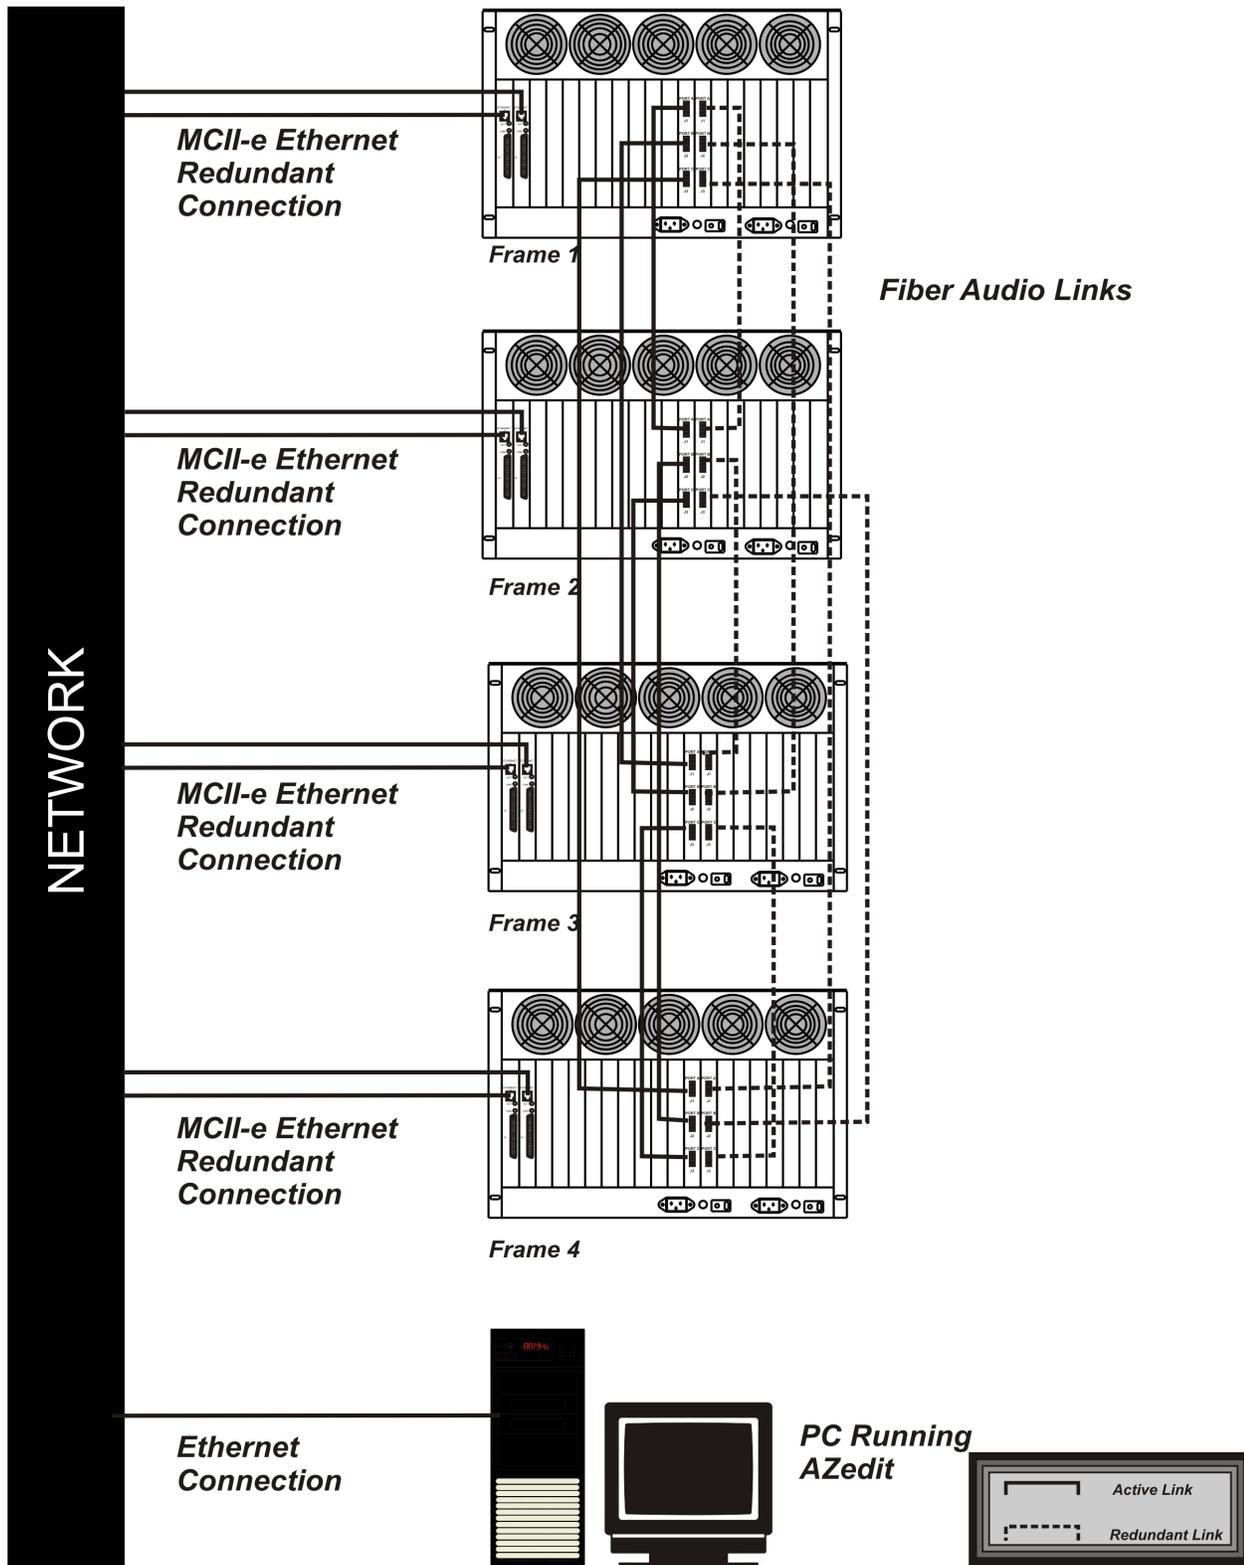
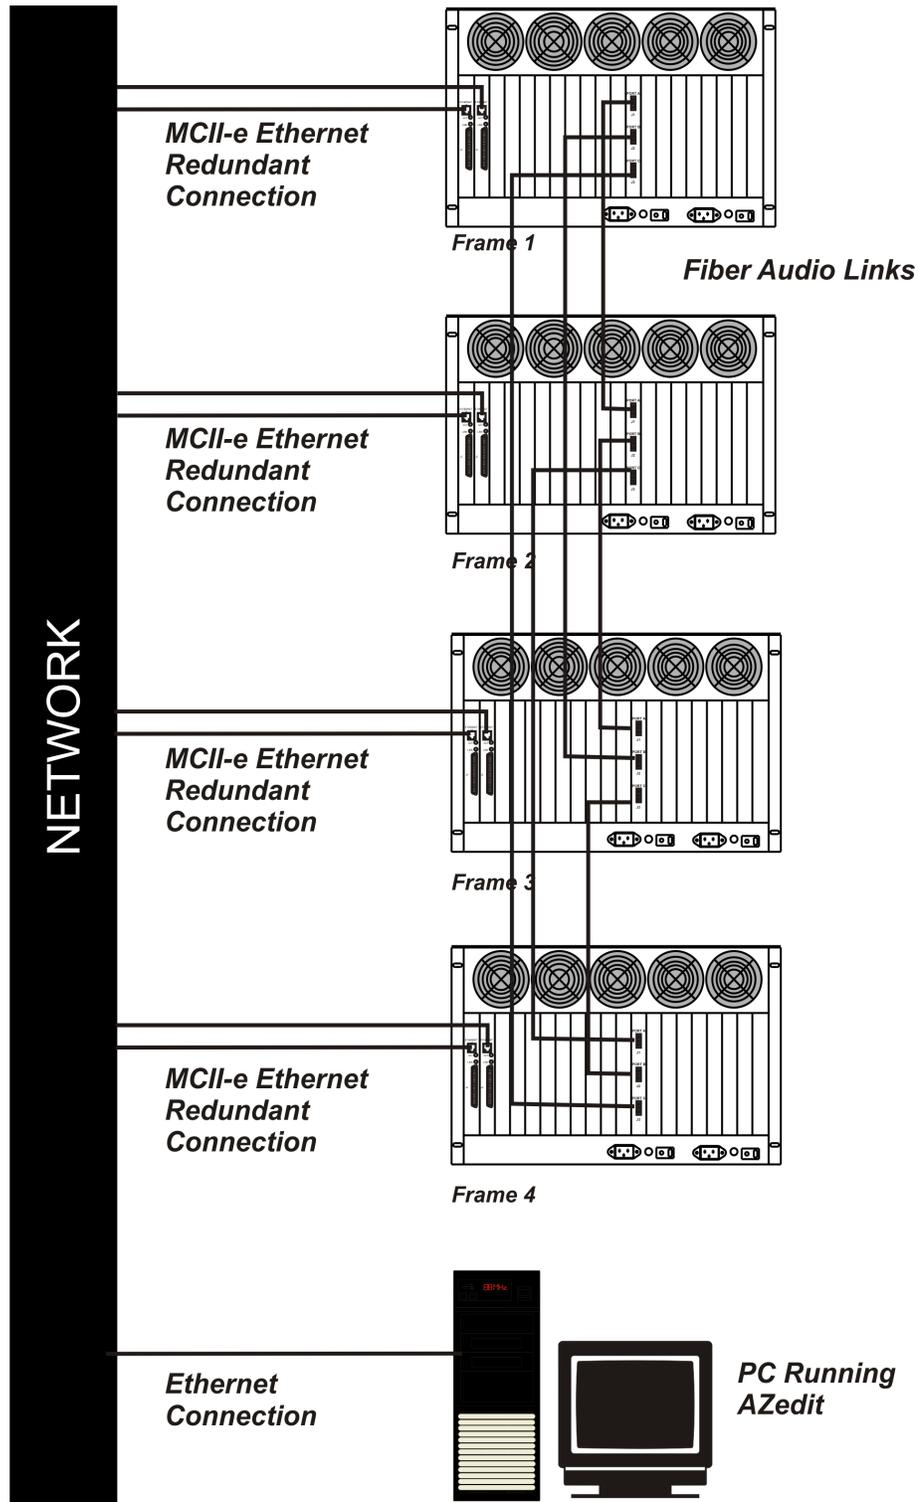

FIGURE 1. 4 Frame System with Full Redundancy, including failover Master Controller
FIGURE 3. 4 Frame System with No Redundancy, including failover Master Controller
Audio and communications (called *control*¹) between frames is separated between the TBX-2 card and the MCII-e Master Controller Card. Communication between frames using TBX-2 occurs using the MCII-e Master Controller over Ethernet. Audio is passed between frames using the TBX-2 card fiber connection (see Figure 1 to Figure 3).
In **Full Redundancy** systems, there are two (2) links, shown in Figure 1, between each frame, so losing either one does not affect audio.
In a **Non-Redundant** system, shown in Figure 3, there is only one (1) link between frames, so if the fiber link goes down, audio communications between the frames is lost.